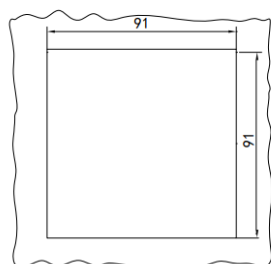

Figure 2
2. From outside, insert the device into the panel cut-out (Figure 2).